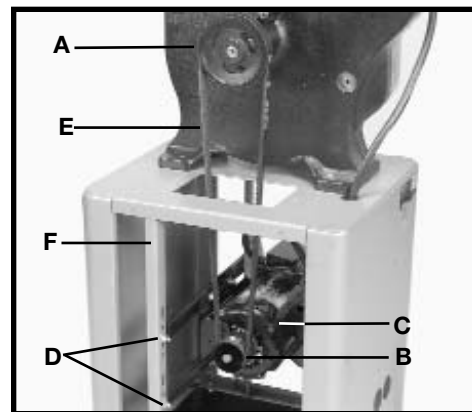

Fig. 9
1. Attach the V-belt (E) Fig. 9 on the two pulleys (A and B), and adjust the belt tension by raising or lowering the motor (C) on the motor mounting bars (D). (If necessary, the motor mounting bars (D) can be repositioned on the two posts (F). Tension is correct when the belt is deflected approximately 1" in the center.